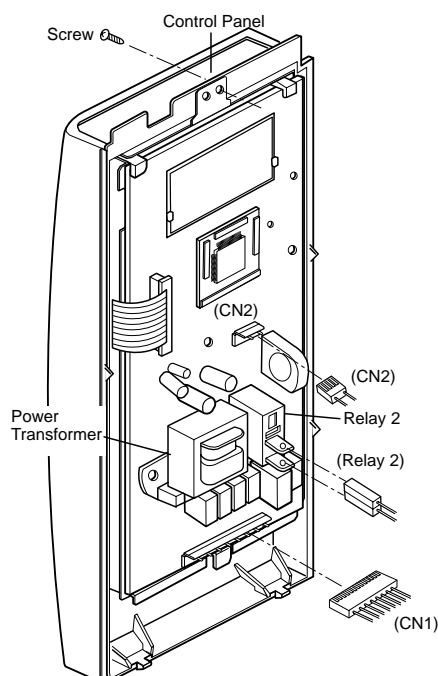

Figure 1
A. REMOVING POWER AND CONTROL CIRCUIT BOARD (Figures 1, 2 and 3)
- (1) Remove a screw securing the control panel assembly to the oven cavity.
- (2) Remove the control panel with pushing it upward.
- (3) Remove the three connectors (CN1, CN2) and wire leads (Relay2) from the circuit board.